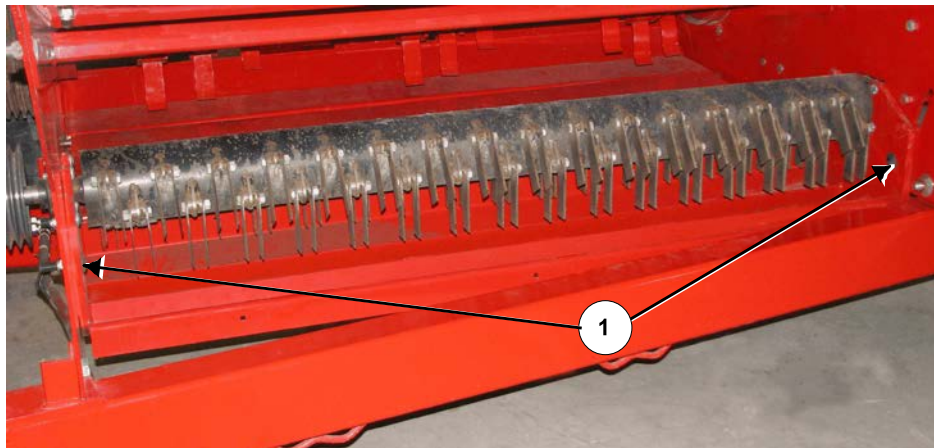

Figure 6: Slide the Housing Between the Tub Walls
- Fasten both ends with 2 of 3/4" x 2" carriage bolts and flange lock nuts (1), see *Figure 6*.